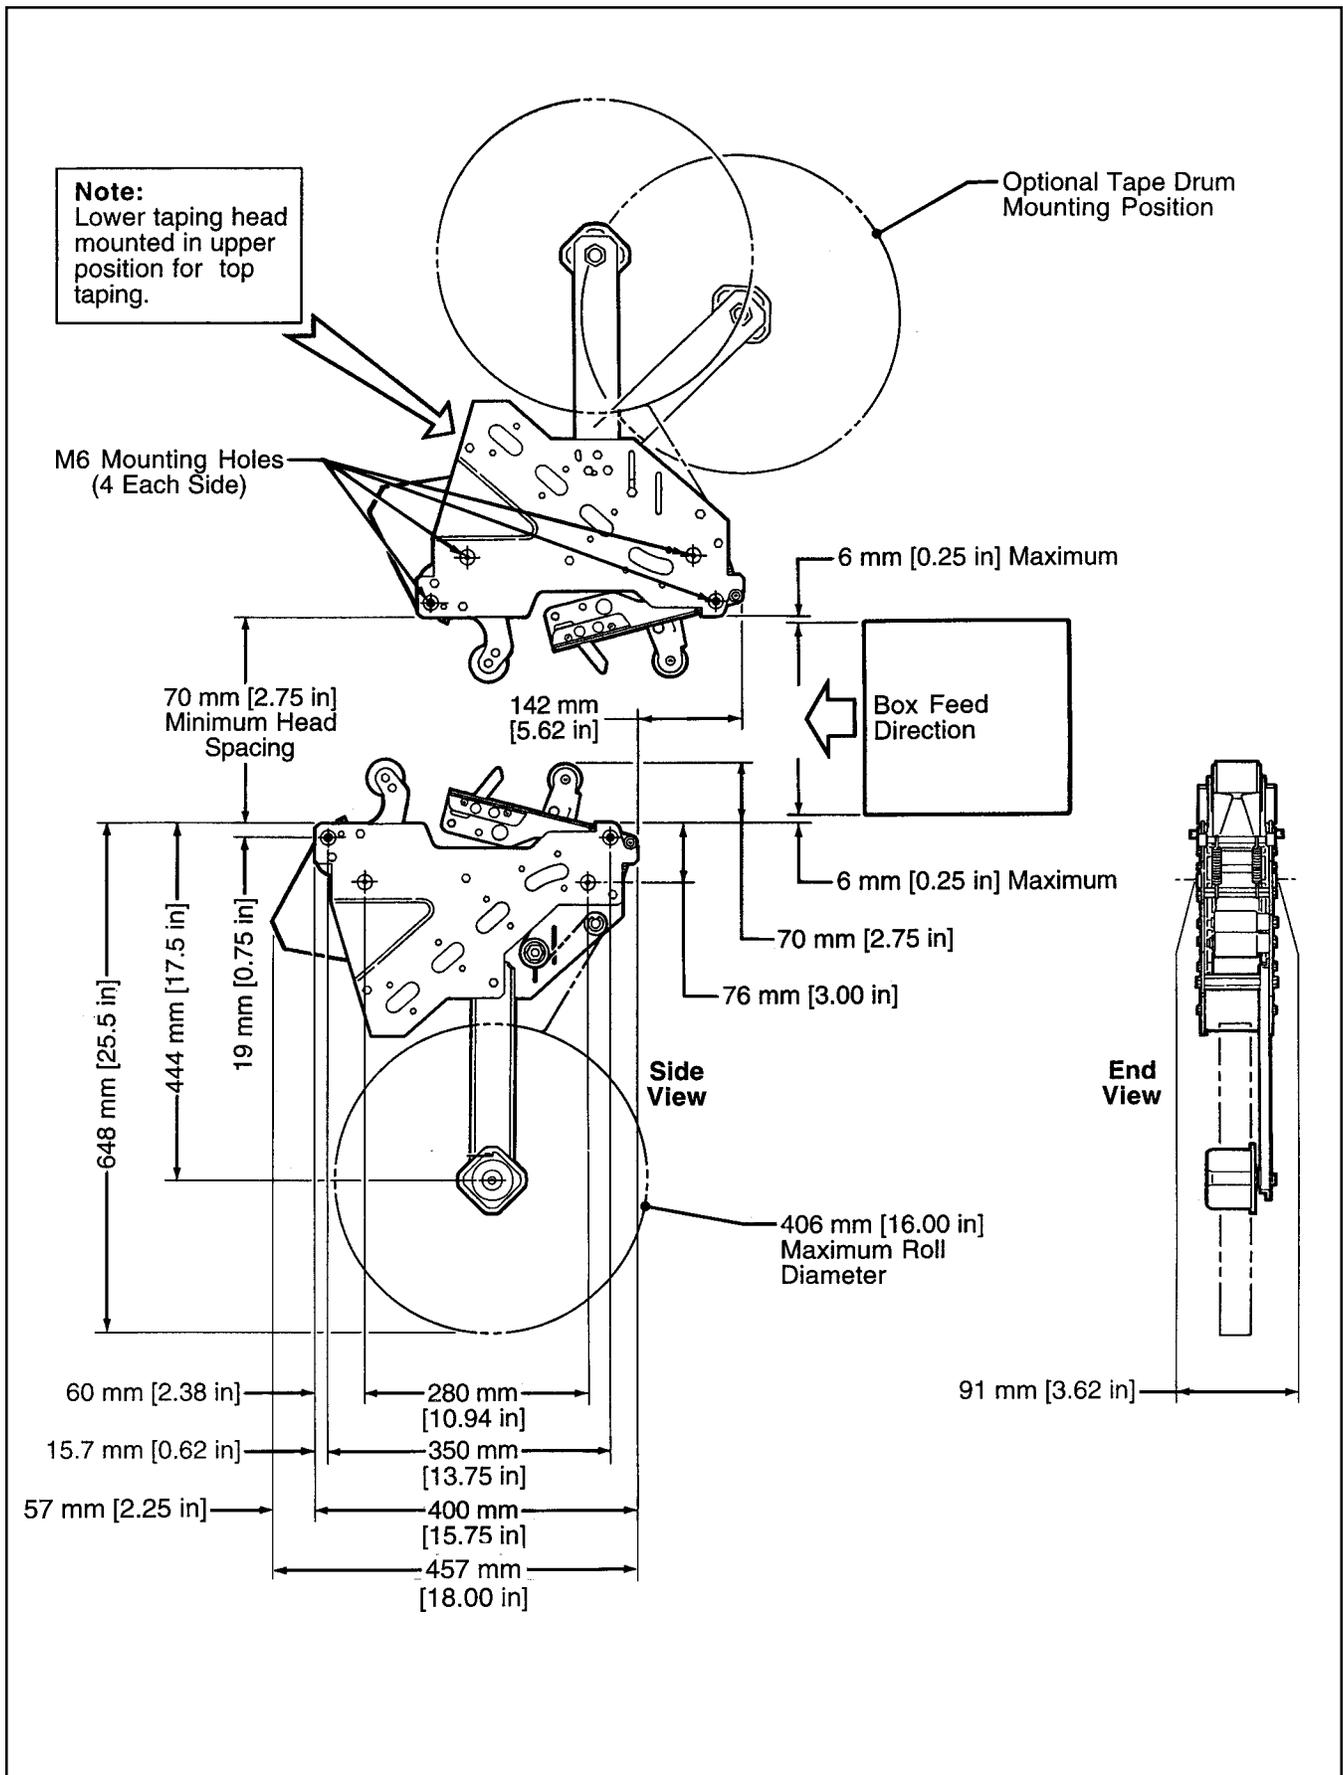

Figure 2-1 – Dimensional Drawing
The AccuGlide™ II STD 1-1/2 Inch Lower Taping Head is designed for bottom taping of boxes, however, with slight modification, it can easily be adapted to top taping. See "Adjustments – Converting Lower Head to Upper Head", page 14. Refer to box size specifications on page 3, and Figure 2-1 on page 4, for the following points in making such installations:
3. Figure 2-1 illustrates the typical mounting relationship for opposing taping head assemblies to allow taping of box heights down to 90 mm [3-1/2 inches]. **To tape box heights down to 70 mm [2-3/4 inches], the taping heads must be completely staggered so only one tape seal is being applied at one time.**